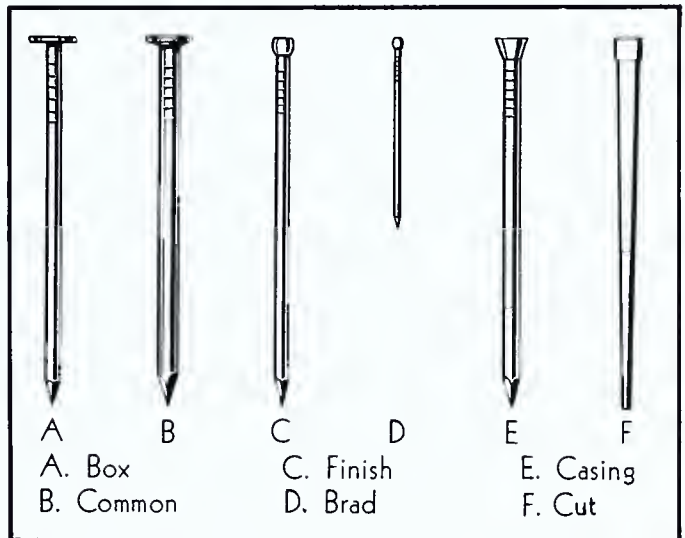

FIG. 137 — *Kinds of Nails*
The nails most frequently used in woodwork are: brads, finishing nails, casing nails, common nails, and box nails, (Fig. 137). They are usually divided into three groups, according to size: (1) brads, (2) nails, and (3) spikes. The brad is merely a small finishing nail ranging in length from $\frac{1}{4}$ " to 1 inch. It is used to nail thin stock together. The sizes of nails and spikes are usually indicated by the term "penny" which is derived from the weight of 1000 nails. For example, 1000 eight-penny (8-D) nails will weigh eight pounds. The lengths of the various nails are shown in the nail chart, Fig. 138. From this chart it will be found that the 2-D nail is 1 inch long, the 4-D nail is $1\frac{1}{2}$ inches long, etc.
Square-cut nails (Fig. 137 at "F") are used chiefly for nailing large hinges in place on rough construction work. They have more holding power when clinched than the common round nail.
The finishing nail is usually made of smaller gauge wire than the common nail; it will not split the wood so readily as the heavier nail. Since this nail has a very small head (Fig. 137 at "C"), it does not have as much holding power as the common nail.
Casing nails are similar to finishing nails, but they have a larger head, which gives them more holding power. The head of this nail is cone-shaped (see Fig. 137, at "E"). The casing nail is used largely for nailing door and window casings and for fastening other interior trim in place.
Common nails have large, flat heads and are used where it is not objectionable for the heads to show and where more holding power is desired. The wire gauge of the common nail is heavier than the gauge of the box nail. The head of the nail, too, is thicker than the head of the box nail (Fig. 137 at "B"). An examination of the nail chart (Fig. 138) will show that the common nail is made in a larger variety of sizes than any other nail. The largest size indicated in the chart is 20-penny. These common nails, however, may also be obtained in sizes of 30-, 40-, 50-, and 60-penny. The longest of these nails, the 60-penny is 6 inches long. Nails larger than 20-penny are commonly called spikes.
The box nail is like the common nail except that it is smaller in diameter and its head is thinner (Fig. 137 at "A"). Since it is made of smaller wire, it can be used to nail thin stock and other stock which is likely to split when nailed with the common nail. The head of the box nail, being thin, does not have as much holding power as the common nail. The box nail derives its name from its earliest use, which was the nailing of packing crates and boxes.